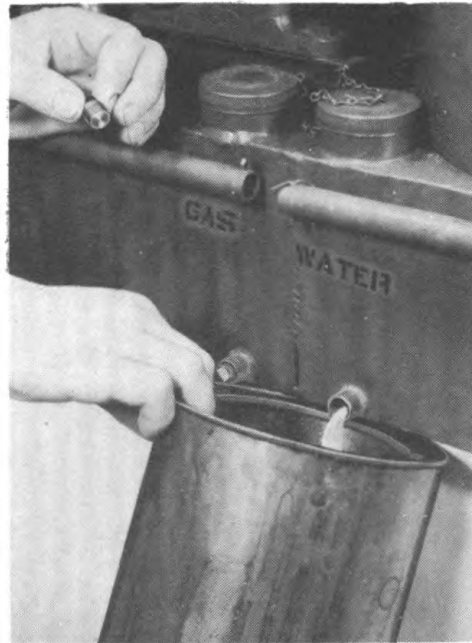

Fig 17. Draining water from supply tank.
b. Cleaning gasoline tank. Wash out gasoline tank with clean gasoline to remove rust preventative. Tank is drained as shown in figure 17.